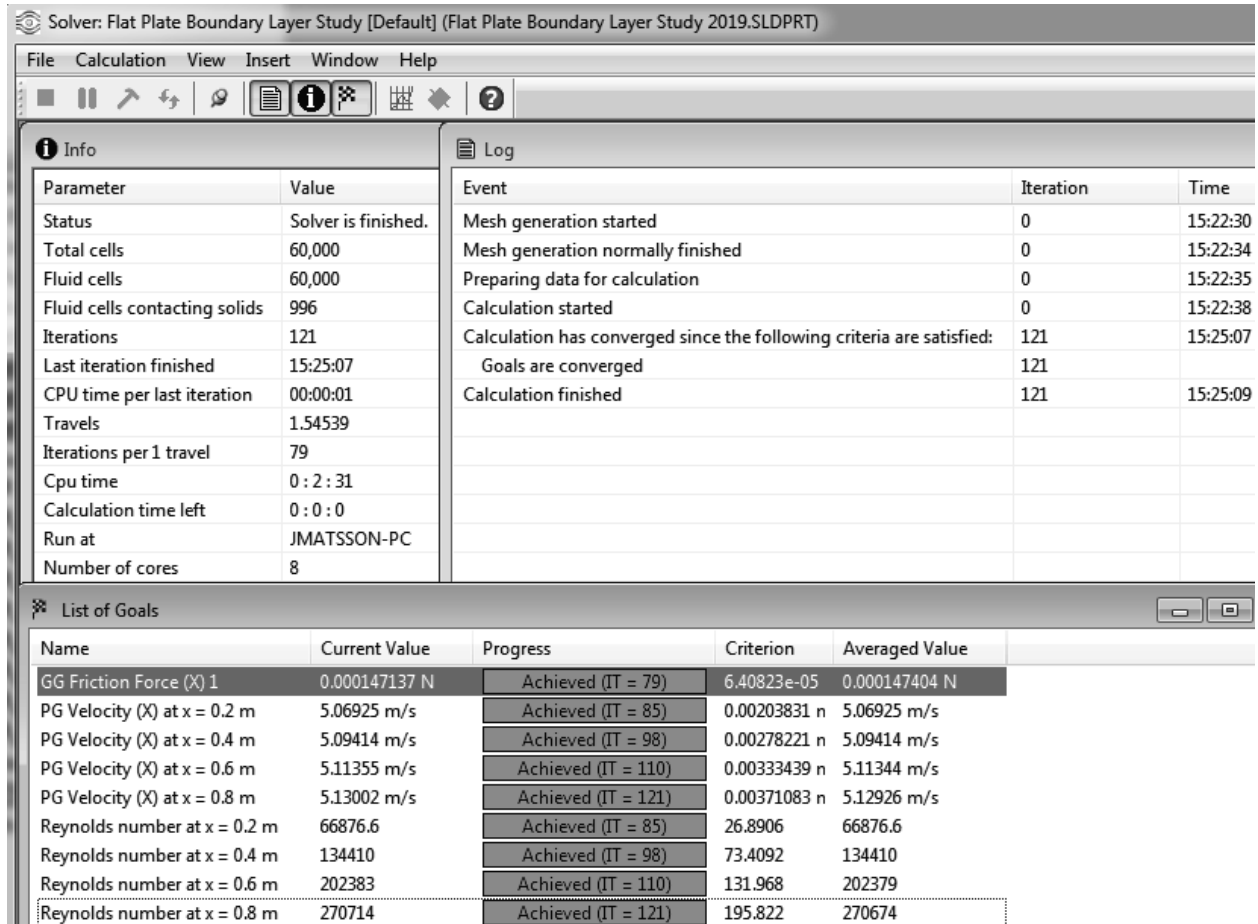
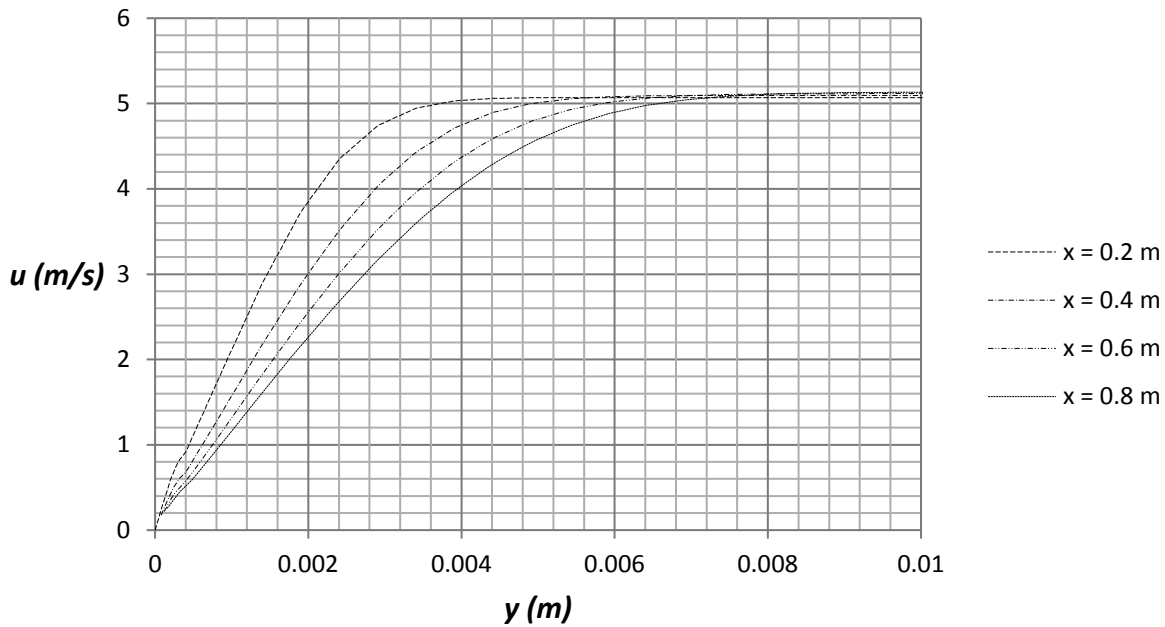
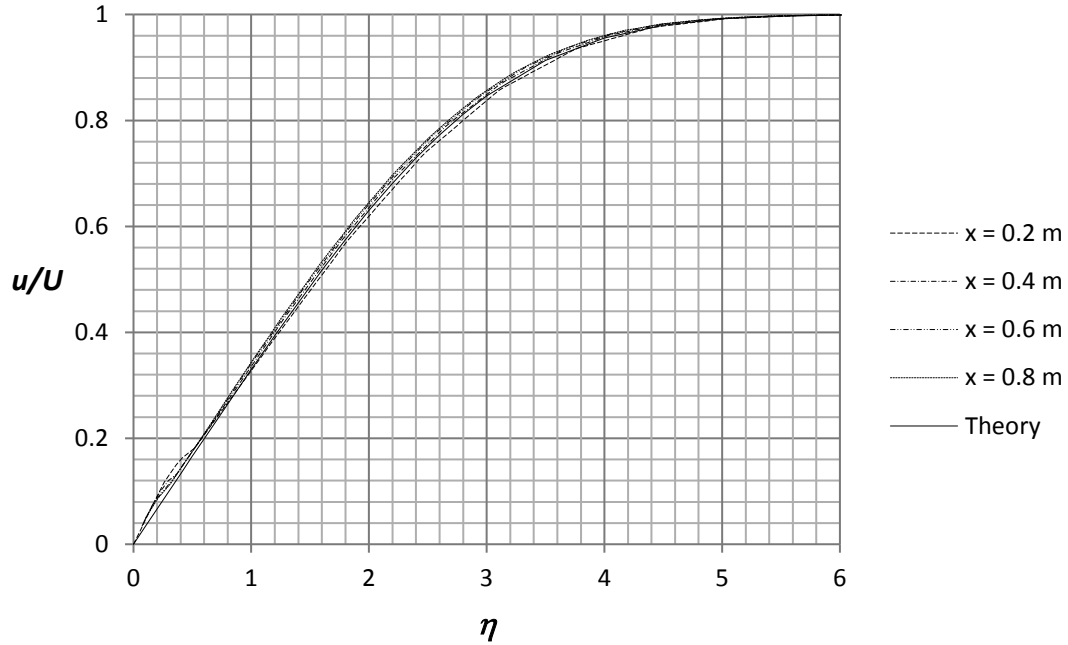
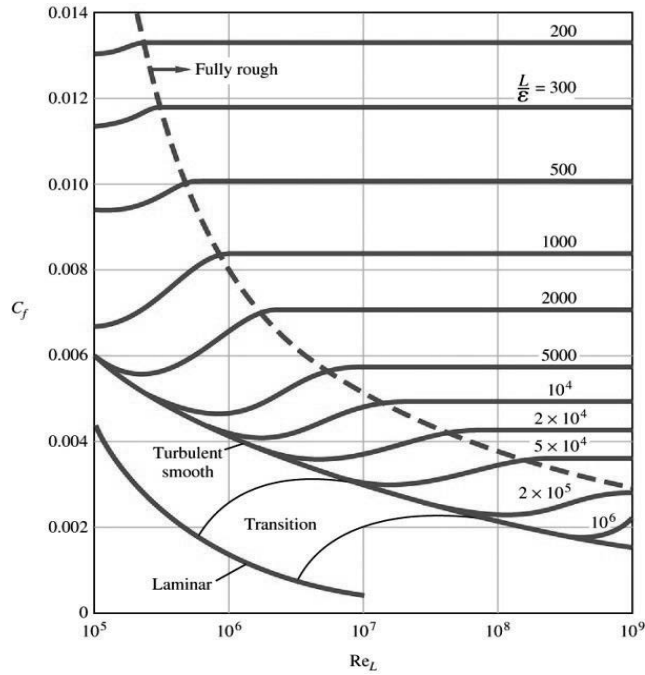

Figure 2.22c) Solver window
Figure 2.24c) Boundary layer velocity profiles on a flat plate at different streamwise positions
Figure 2.25a) Velocity profiles in comparison with the theoretical Blasius profile (full line)
Figure E3. Average friction coefficient for flow over smooth and rough flat plates, White (1999)
Select **Module1** in the **Modules** folder under **VBAProject (graph 2.24c).xism)**. Select **Run>>Run Macro** from the menu of the **MVB for Applications** window. Click on the **Run** button in the **Macros** window. Figure 2.24c) will become available in **Excel** showing the streamwise velocity component  $u$  ( $m/s$ ) versus wall normal coordinate  $y$  ( $m$ ). Close the **XY Plot** window and the **graph 2.24c)** window in **Excel**. Exit the **XY Plot** window in **SOLIDWORKS Flow Simulation** and rename the inserted xy-plot in the **Flow Simulation** analysis tree to **Laminar Velocity Boundary Layer**.
26. Place the file “**graph 2.25a)**” on the desktop. Repeat step 24 to plot Figure 2.25a). Rename the xy-plot to **Comparison with Blasius Profile**.
We see in figure 2.25a) that all profiles at different streamwise positions collapse on the same Blasius curve when we use the boundary layer similarity coordinate.
From the data of figure 2.24c) we can see that the thickness of the laminar boundary layer is close to 3.80 mm at  $Re_x = 66,877$  corresponding to  $x = 0.2$  m. The free stream velocity at  $x = 0.2$  m is  $U = 5.069$  m/s, see figure 2.22c) for list of goals in solver window, and 99% of this value is  $U_\delta = 5.018$  m/s. The boundary layer thickness  $\delta = 3.83$  mm from Flow Simulation was found by
finding the  $y$  position corresponding to the  $U_\delta$  velocity. This value for  $\delta$  at  $x = 0.2$  m and corresponding values further downstream at different  $x$  locations are available in the Plot Data for Figure 2.25a). The different values of the boundary layer thickness can be compared with values obtained using equation (2.3). In Table 2.1 are comparisons shown between boundary layer thickness from Flow Simulation and theory corresponding to the four different Reynolds numbers shown in figure 2.24c). The Reynolds number varies between  $Re_x = 66,877$  at  $x = 0.2$  m and  $Re_x = 270,849$  at  $x = 0.8$  m.
The average friction coefficient over the whole plate  $C_f$  is not a function of the surface roughness for the laminar boundary layer but a function of the Reynolds number based on the length of the plate  $Re_L$ ; see figure E3 in Exercise 8 at the end of this chapter. This friction coefficient can be determined in Flow Simulation by using the final value of the global goal, the  $X$ -component of the Shear Force  $F_f$ , see figure 2.22c), and dividing it by the dynamic pressure times the area  $A$  in the  $X$ - $Z$  plane of the computational domain related to the flat plate.
The average friction coefficient over the whole plate  $C_f$  is a function of the surface roughness for the turbulent boundary layer and also a function of the Reynolds number based on the length of the plate  $Re_L$ ; see figure E3 in Exercise 8. This friction coefficient can be determined in Flow Simulation by using the final value of the global goal, the X-component of the Shear Force  $F_f$  and dividing it by the dynamic pressure times the area  $A$  in the X-Z plane of the computational domain related to the flat plate; see figure 2.28a) for the size of the computational domain.
- 2.8 Use different fluids, surface roughness, free stream velocities and length of the computational domain to compare the average friction coefficient over the entire flat plate with figure E3.